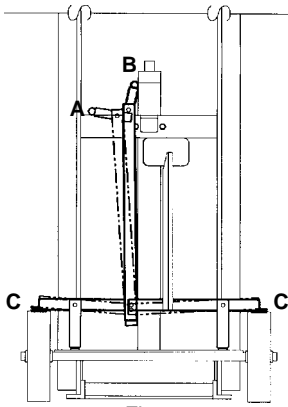

Figure 1
***NOTE:** Tape has been placed over the breather hole of the hydraulic jack to prevent leakage during shipment. This tape must be removed prior to use. See drawing on page 4 for hole location. To use the Peda-Lift wheel lock (Figure 1), move handle from position A to position B. Pads (C) will push onto wheel treads, preventing rotation. When wheels wear, if pad contact is not positive, remove spacer washers until full locking is restored. To lock Lite-Lift and Engine Lift models, engage brake located on caster.